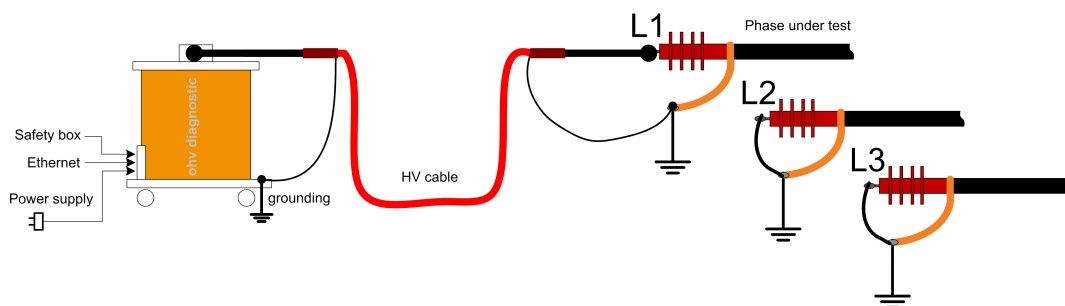

Figure 5.1: Connecting the DAC device (M-Series)
- 1 Connect the high voltage cable to the cable termination under test (ref. to Figure 5.1). Use the connection clamp or applicable connection tools from the connection box for cable accessories.